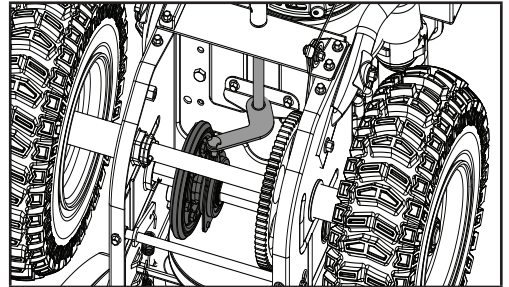

Figure 52
- Follow the previous steps in reverse order to reassemble the parts (Fig. 52).